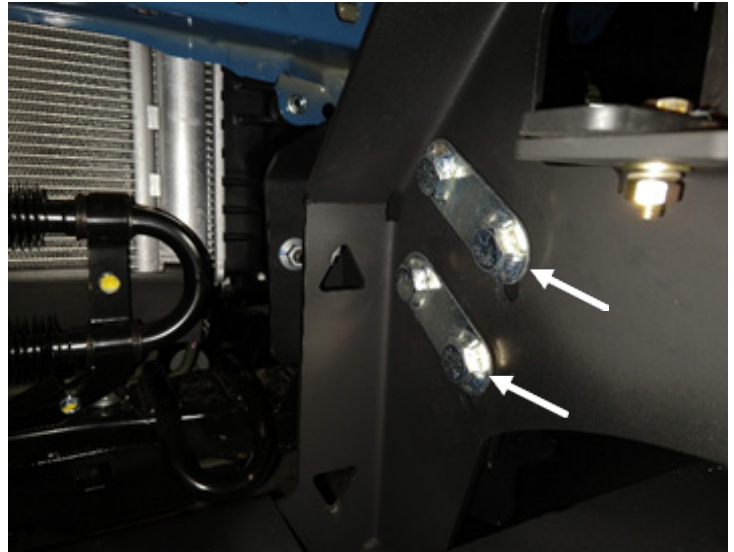

Figure 25
29. With assistance, place the bumper shell (22021) up to the vehicle and install the four (4) provided bolt strips (20296) through the winch tray mounting holes into the intermediate brackets. (Figure 25)